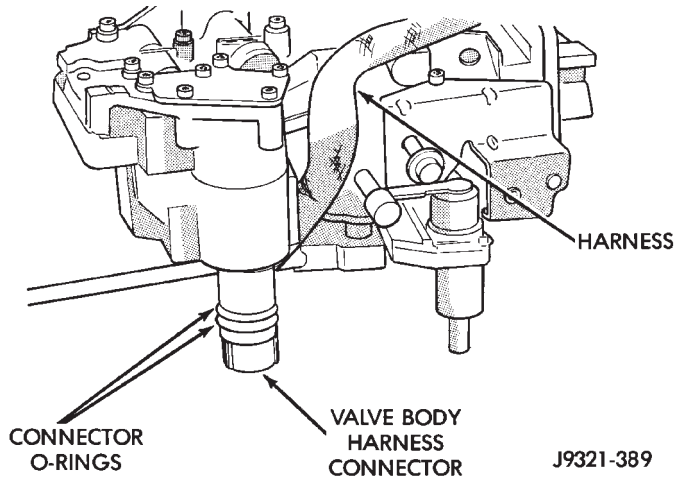

Fig. 40 Valve Body Harness Connector O-Ring Seal
- (1) Check condition of O-ring seals on valve body harness connector (Fig. 40). Replace seals on connector body if cut or worn.